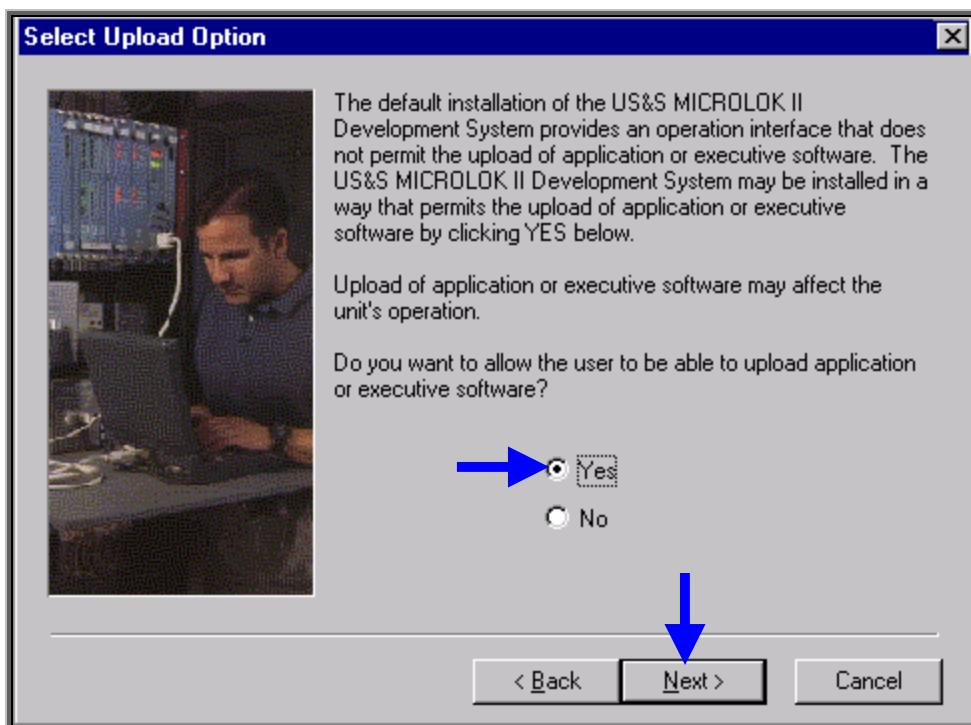

Figure-4.4
- ❖ This will present another dialog box as shown in Figure-4.4.